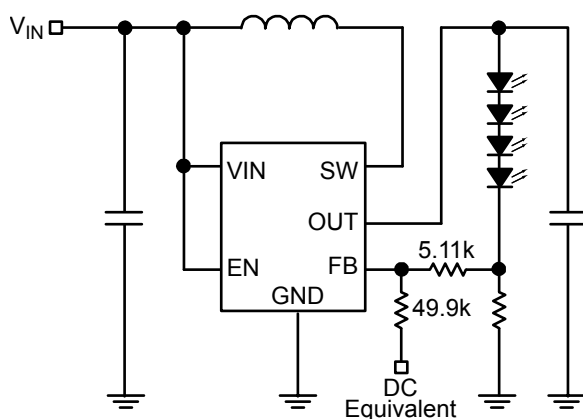

Figure 2. Continuous Dimming
2. Continuous dimming control is implemented by applying a DC control voltage to the FB pin of the MIC2289C through a series resistor as shown in Figure 2. The LED current is decreased proportionally with the amplitude of the control voltage. The LED intensity (current) can be dynamically varied applying a DC voltage to the FB pin. The DC voltage can come from a DAC signal, or a filtered PWM signal. The advantage of this approach is that a high frequency PWM signal (>10kHz) can be used to control LED intensity.